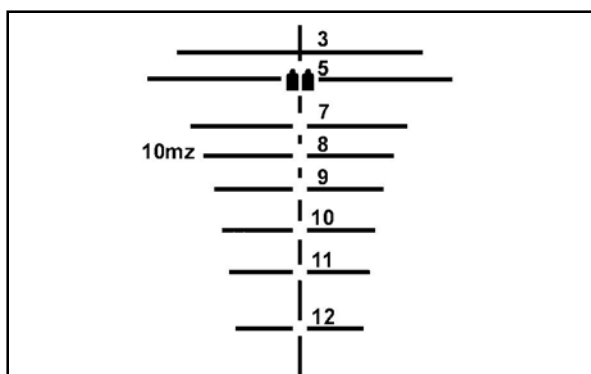

Figure G-49. 500-meter reticle aiming point.
(6) Repeat the above steps until the strike of the round is coincident with the center of the target. Close the silver lock down to prevent any further movement of the elevation zeroing adjustment dial.
d. **Field Zeroing at 500-Meter Range.** Look through the telescope and align the reticle's 500-meter mark on the center of mass of the double "E" silhouette target (Figure G-49):